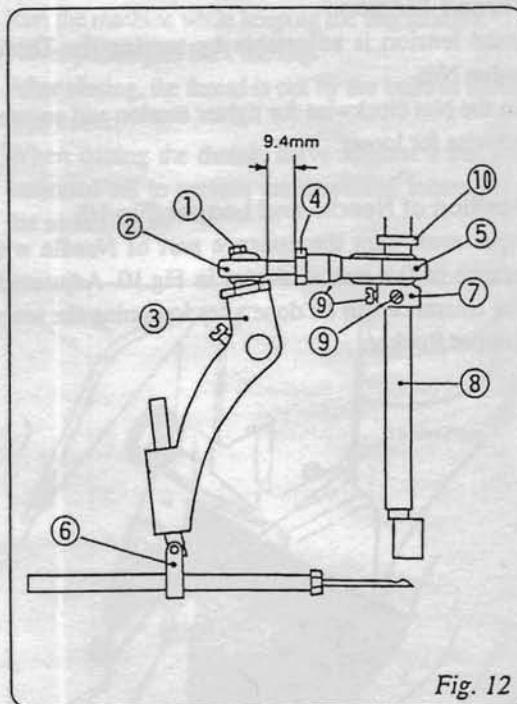
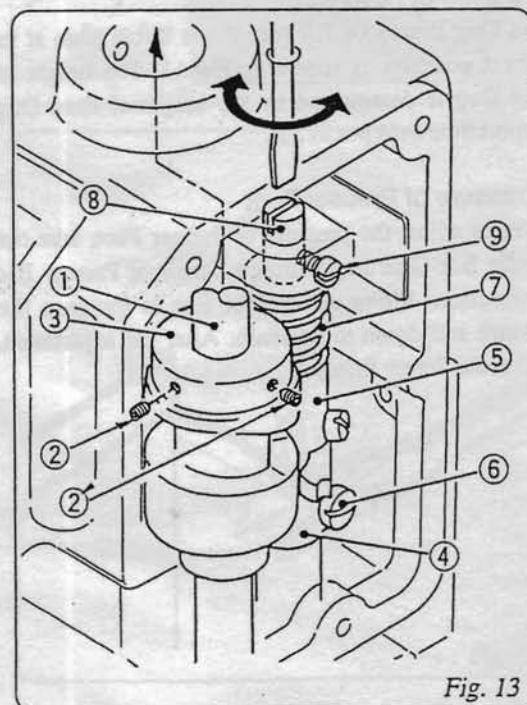

Fig. 12
Fig. 13
The position of Needle is adjusted so that the distance between the point of Needle (at its highest position) and Throat Plate is 13 mm, after loosening screw on Needle Bar Connection Assembly ⑥ in Fig.12.
- ① Screw 11/64S40089
- ② Rod End 6APOS8
- ③ Needle Bar Lever 242051A
- ④ Nut 1N8
- ⑤ Connecting Rod Assembly 242011A
- ⑥ Needle Bar Connection Assembly 242101A
- ⑦ Eccentric Cam (part of Connecting Rod Assembly) 242011
- ⑧ Main Shaft 241101
- ⑨ ⑩/Screw 11/64S40001
- ⑪ Spacer 241161
Adjust Looper Drive Cam ③ When necessary as follows:(Refer to Fig.13.).
- Apply the Screws ② and ③ on the taper of Main Shaft ①.
- Adjust Arm (B) ④, so that Looper Drive Cam ③ and Arm (A) ⑤ move smoothly. After adjusting, fix the Screw ⑥ tightly.
- The clearance between Looper Drive Cam ③ and Arm ⑤ is effected by Spring ⑦. Loosen Screw ⑨ and turn Spring Supporter ⑧ to adjust the pressure of Spring ⑦. After adjusting, tighten the Screw ⑨ to fasten Spring Supporter ⑧.
- ① Main Shaft 241102
- ② ③/Screw 15/64S28524
- ③ Looper Drive Cam 243012
- ④ Looper Rocker Shaft Arm (B) 243081
- ⑤ Looper Rocker Shaft Arm (A) 243071
- ⑥ Screw for Looper Rocker Shaft Arm (B) 11/64S40009
- ⑦ Spring 243131